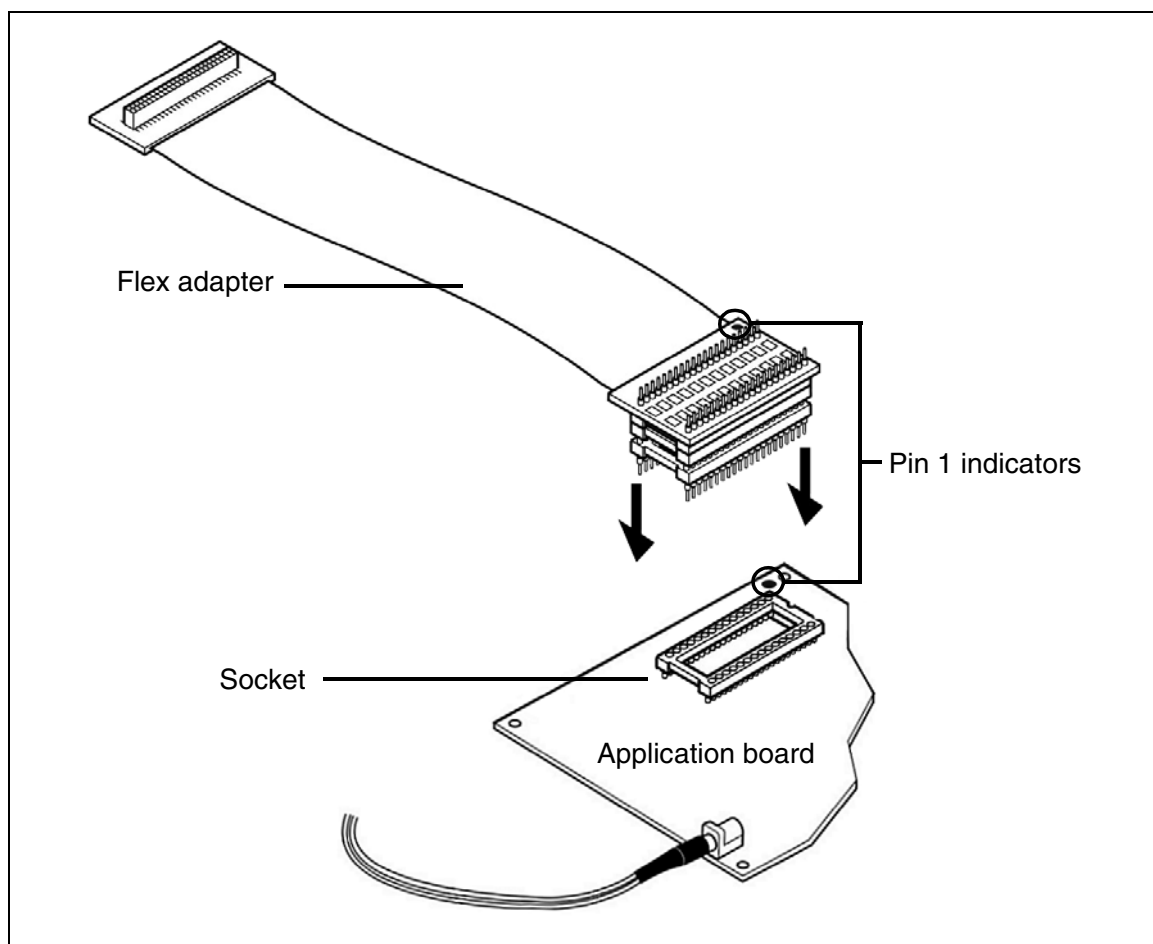

Figure 5: SDIP42 connection scheme
- 2 Align the pin 1 indicators on the SDIP42 connector of the DB513 flex adapter, then insert the into the socket on your application board as shown in Figure 5.